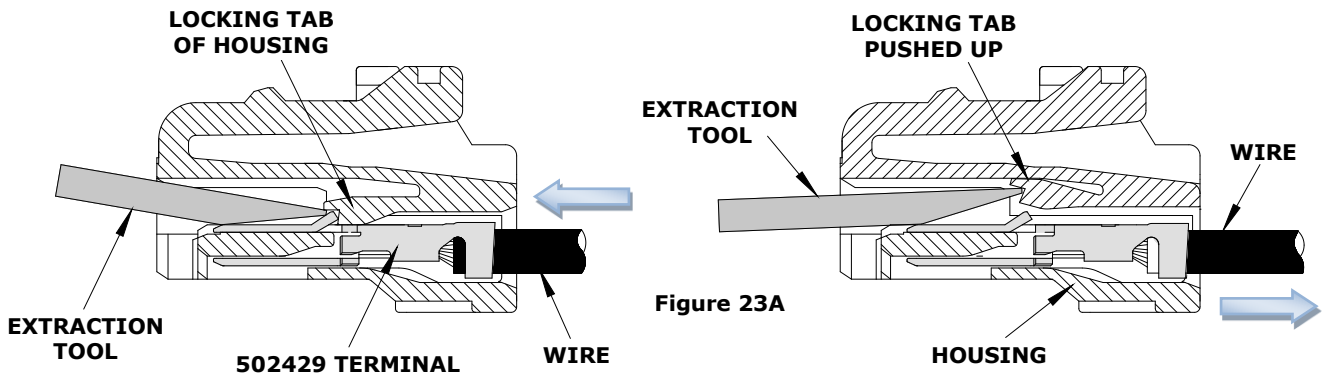

Figure 23A
2. Insert the extraction tool into the slot above the terminal in the connector housing as shown in Figures 23A and 23B.